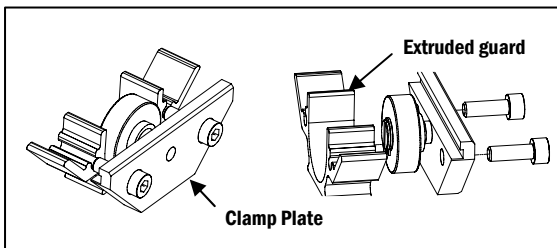
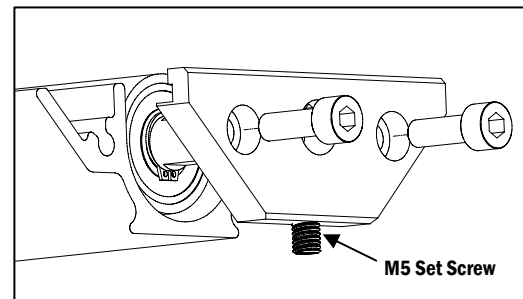

Figure 2
Figure 3
b. Loosen the two M5 Socket head Cap Screws tightened in the clamp from the extruded guard (**Figure 2**). For Full Width Underside Idlers, loosen the screws on both ends, and also the M5 set screws on the bottom of the Clamp Plates (**Figure 3**).